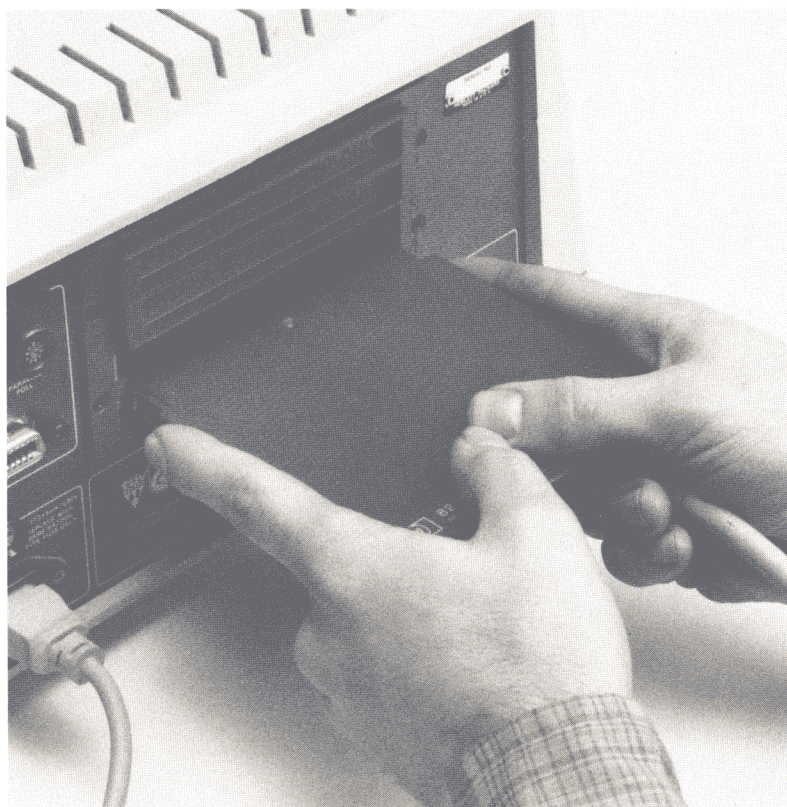

Figure 2-6. Installing the Interface Into the Backplane
3. Insert the interface into any of the four I/O ports in the back of the mainframe with the computer turned OFF! Make sure the interface is firmly seated in the port (see figure 2-6).